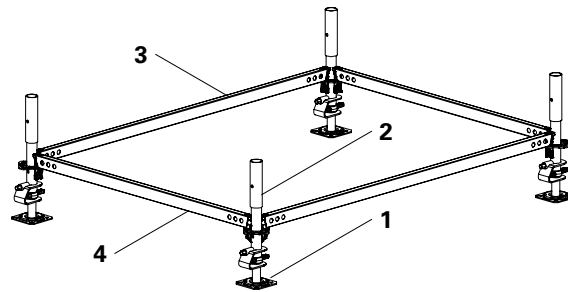

Fig. B1.01
1. Assemble the base frame using the components. (Fig. B1.01)